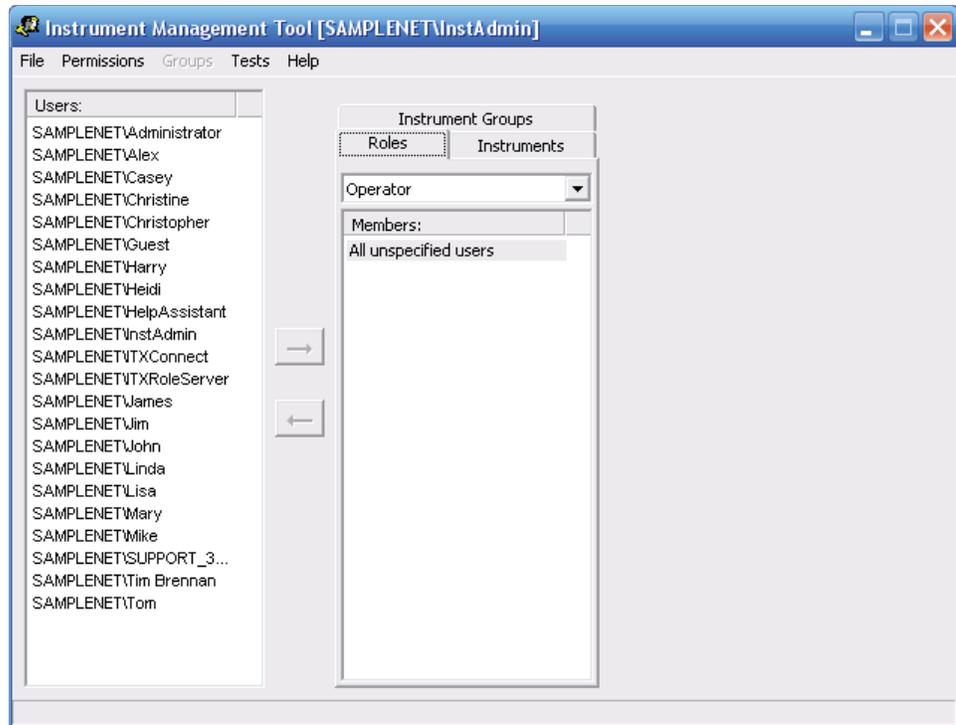

Figure 1: The Central Instrument Management Tool
2. Double-click the Integritest 4N Central IMT desktop icon. The Central IMT (Figure 1) will appear.